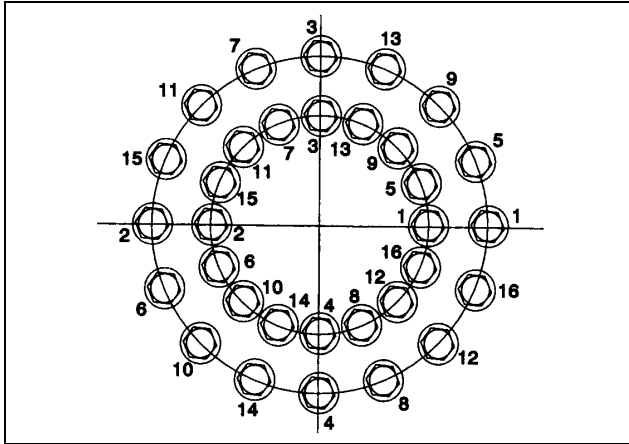

Figure 2-33. Swing Bearing Torquing Sequence
- b. Line up high spot (blue) of bearing with center tooth of worm gear. Set backlash to 0.20 - 0.25 mm. Tighten capscrews as shown in Figure 2-33.
- c. Following the torque sequence diagram shown in Figure 2-33, tighten the bolts to an initial torque of 237 Nm. Then following the same sequence, tighten to a final torque of 326 Nm.
- h. Following the torque sequence shown in Figure 2-33, tighten the bolts to an initial torque of 237 Nm. Then following the same sequence, tighten the bolts to 240 ft. lbs (326 Nm).